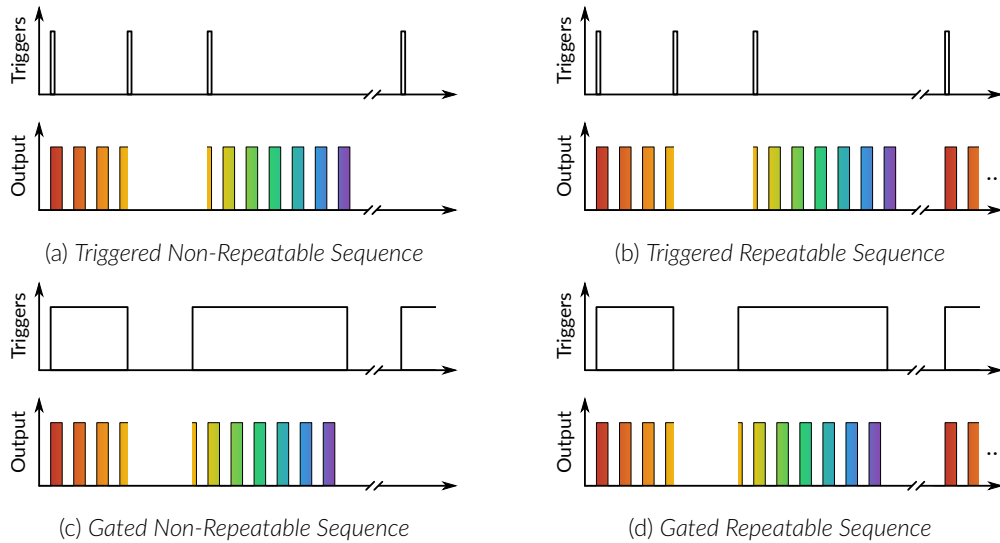

Figure 11.37: Pause Sequence Mode
- **Pause:** This mode activates the channel sequence when a rising edge greater than 3.3 V is detected on the BNC input (Fig. 11.37). Following input pulses (when *Triggered*, Fig. 11.37a) or falling edge (when *Gated*, Fig. 11.37c) will pause the sequence and the sequence will continue when the next rising edge is received. When the **Repeatable sequence** checkbox is checked, the sequence will restart with the arrival of the first input pulse after the sequence has finished (Figs. 11.37b and 11.37d).